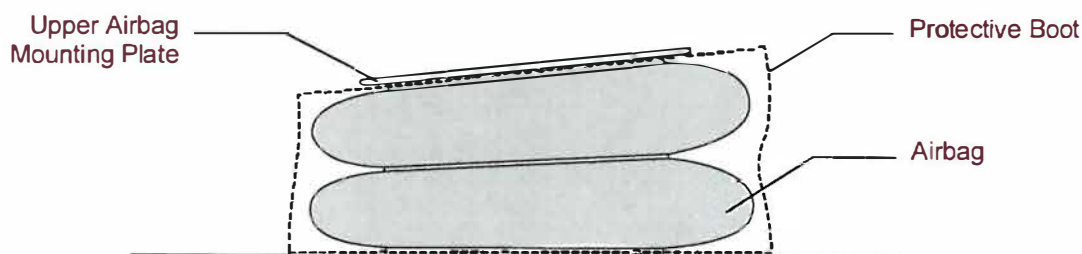

Figure 6-4a Airbag Removal and Replacement
2. Stretch the protective boot over the top of the airbag. Attach the upper mounting plate to the airbag with the four mounting screws. (Refer to Figure 6-4a above.) Maintain correct orientation.